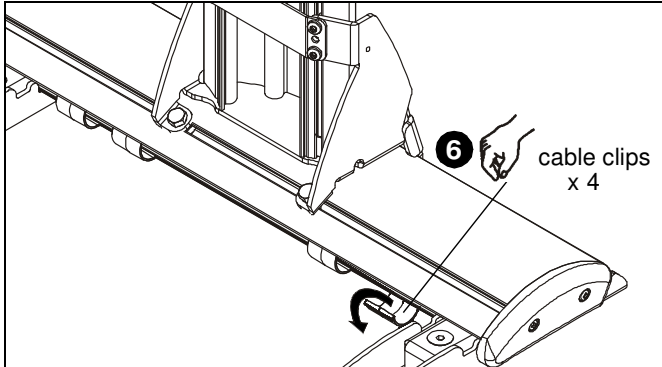

**Figure 27**
5. Remove cable management covers (if necessary) from short throw projector arm. (See Figure 27)